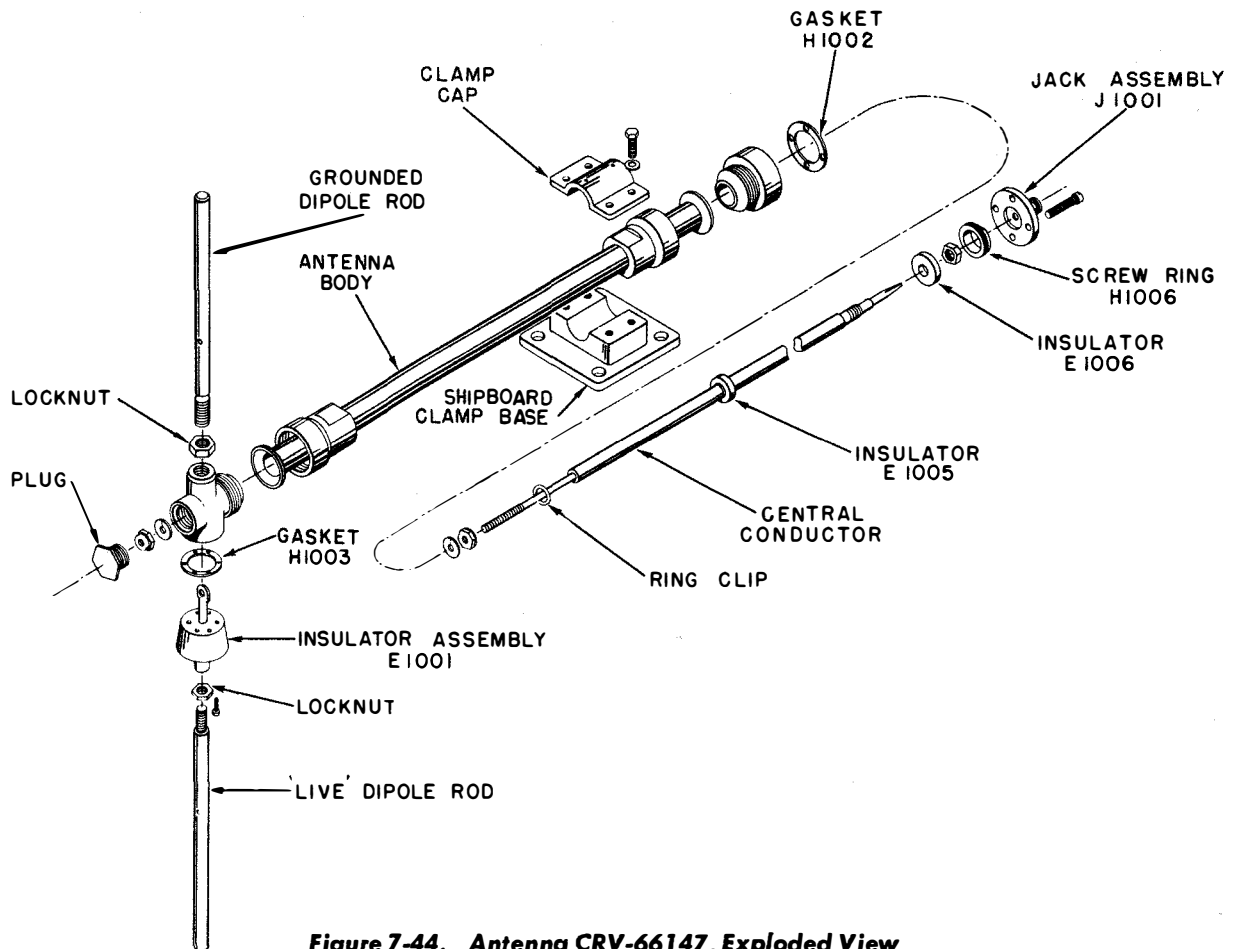

Figure 7-44. Antenna CRV-66147, Exploded View
Step 3. Clamp the center junction at the dipole end of the antenna in a vise and remove the hexagonal shaped plug in the casting as shown in Figure 7-44.